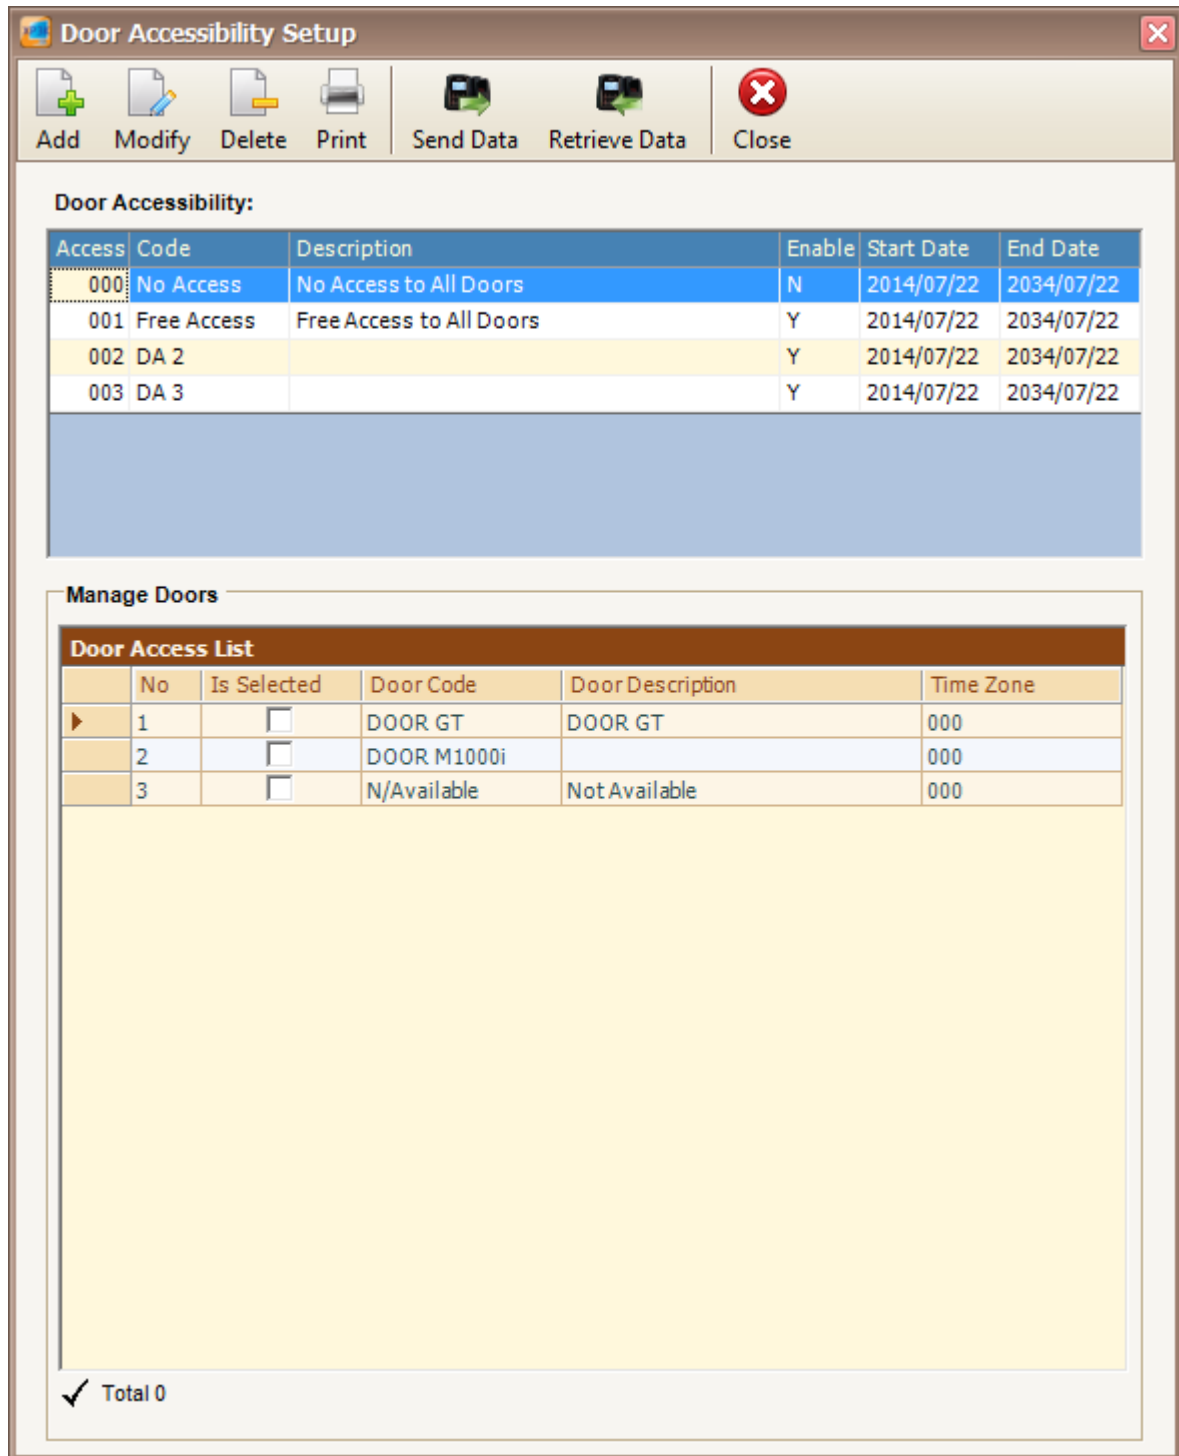

Figure 185 - Door Accessibility Setup
2. The following window will be shown (Refer **Figure 185**).